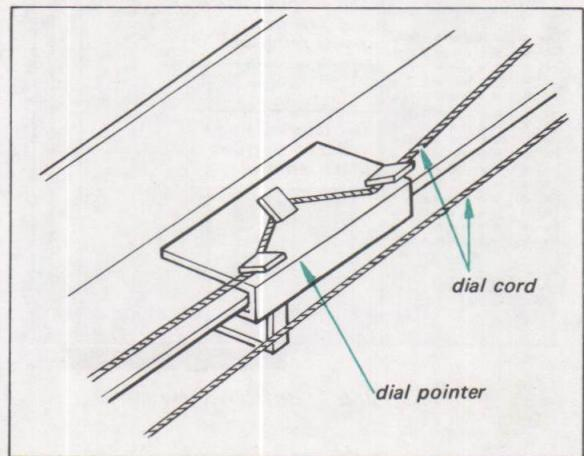

Fig. 2-9. Dial pointer installation
8. Put the dial pointer on the cord as shown in Fig. 2-9, and then tune the set to the local fm station. Move the dial pointer to the position where the dial indication coincide with the local station's carrier frequency.